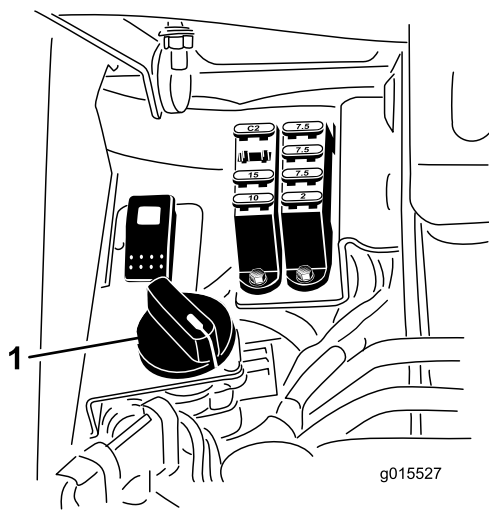

Figure 54
6. Rotate the Reel Speed Control to setting 1 (Figure 54).